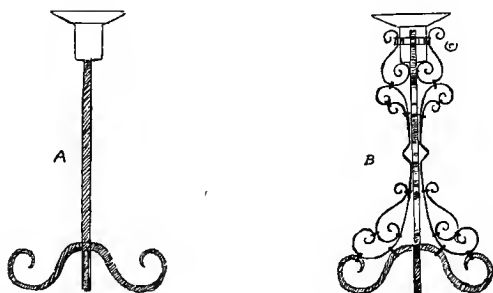

FIG. 28.—Candlestick.
Little difficulty will now be found in working out any of the following patterns to Fig. 28.
The stock (A) of Fig. 28 must be forged ; it costs 9*d.* at Melhuish's, Fetter Lane. The ring and the four